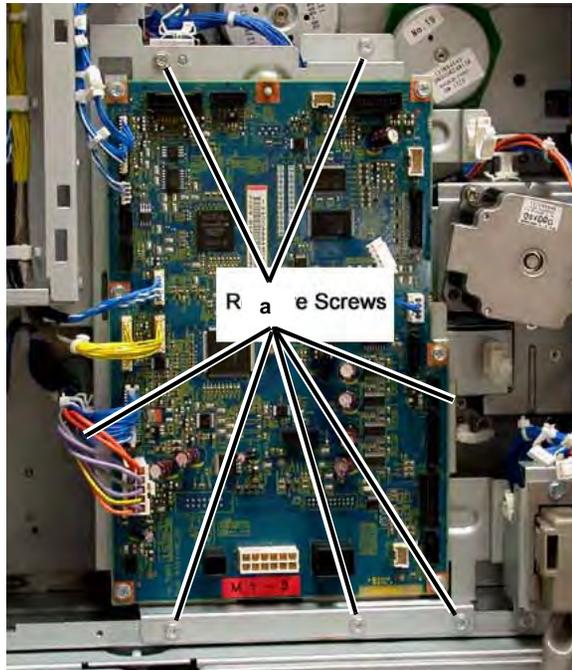

Figure 4 Removing Screws
5. Perform the following (Figure 4).
- a. Remove the MCU PWB chassis Screws (7).